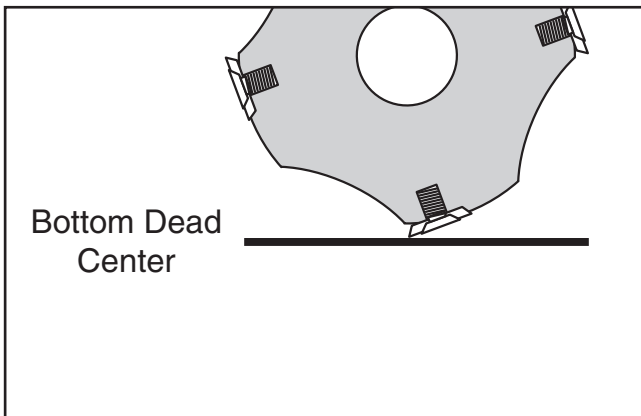

Figure 28. Cutter edge at bottom dead center.
*BDC = Bottom Dead Center (see **Figure 28**).